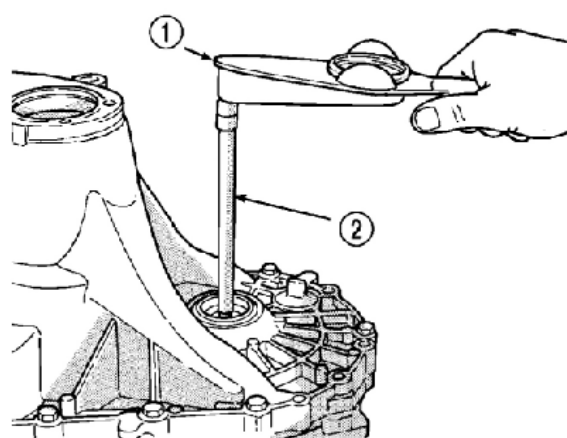

Figure 3-78 Checking the rotating torque of differential bearing
(7) The proper bearing preload for gasket is the preload of sum of total end gap plus (constant) 0.18mm (0.007 in.). Don't add the obtained preload for gasket.
(8) Screw off casing bolt, take down the differential bearing cap for clutch outer race, install the gasket selected in step 7 and press the bearing cap in outer race.
(9) Mount clutch outer race, assemble and screw down bolt to torque 26 Nm (19 ft. lbs.).
(10) Use dedicated tool C-4995 and inch –pond torque spanner and check the rotating torque of differential assembly (Figure 3-78).